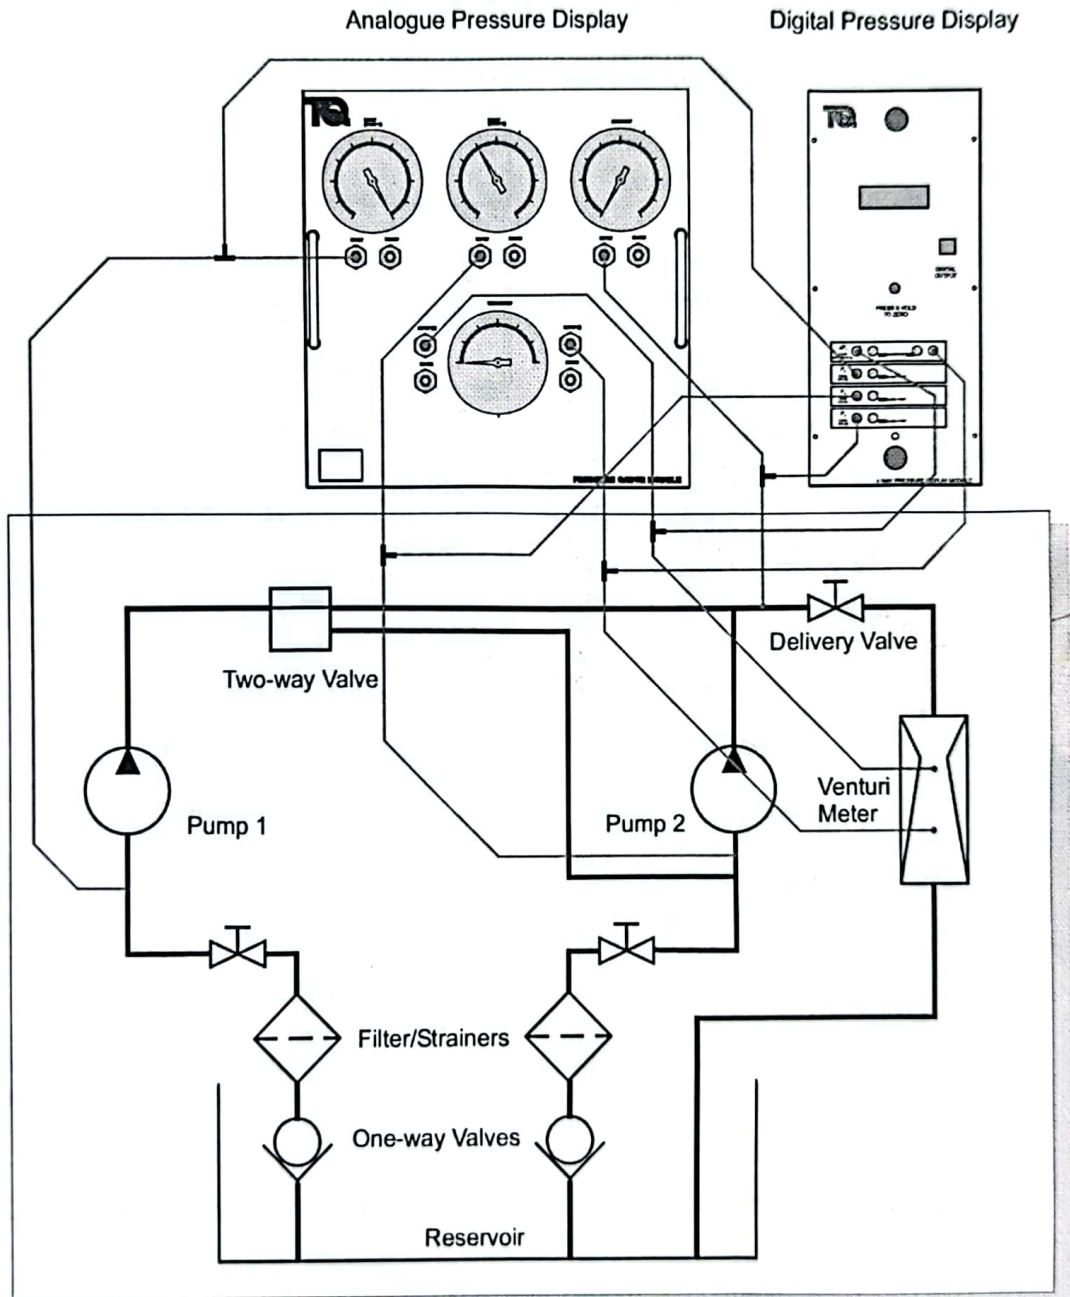

*Figure 18 Remove the Transit Plate*
9. The load cells on each pump dynamometer are fitted with a transit plate to prevent damage to the load cell when the H83 is transported. Loosen and remove the bottom and then the top screws of the transit plate from each load cell (see Figure 18). Store the transit plates safely, in case you need to transport the H83 again.